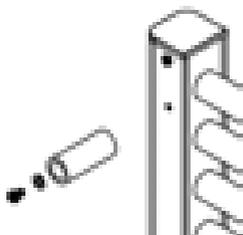

Fig. 3
5. Screw the smaller diameter brackets ($\varnothing 19$) onto the heater with the 4 x M4 screws and 4 x M4 washers as shown in Fig 3.